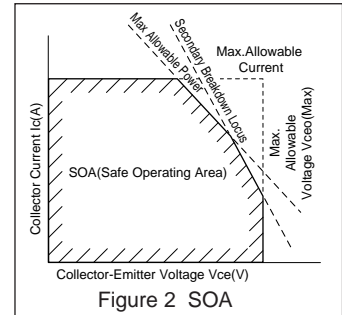

Figure 2 SOA
- c) When using the transistor under pulse operation or inductive load, the Safe Operating Area (SOA) for the current and voltage must not be exceeded (Figure 2).